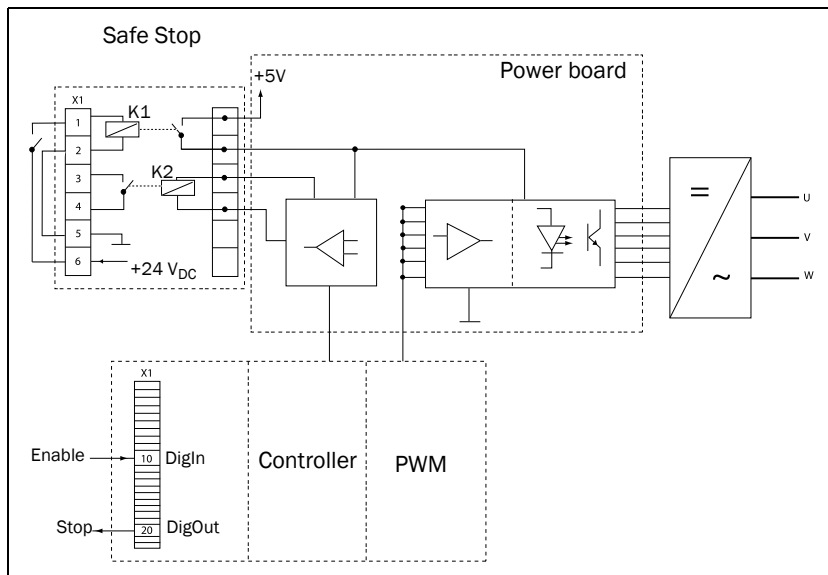

Fig. 32 Safe Stop connection
- "Inhibit" input, terminals 1 (DC+) and 2 (DC-) on the Safe Stop option board should be made active by connecting 24 VDC to secure the supply voltage for the driver circuits of the power conductors via safety relay K1. See also Fig. 32.
- High signal on the digital input, e.g. terminal 10 in Fig. 32, which is set to "Enable". For setting the digital input please refer to the Software instruction.
To monitor the "Enable" function, the selection "RUN" on a digital output can be used. For setting a digital output, e.g. terminal 20 in the example Fig. 32, please refer to Menu [540] in the Software instruction.